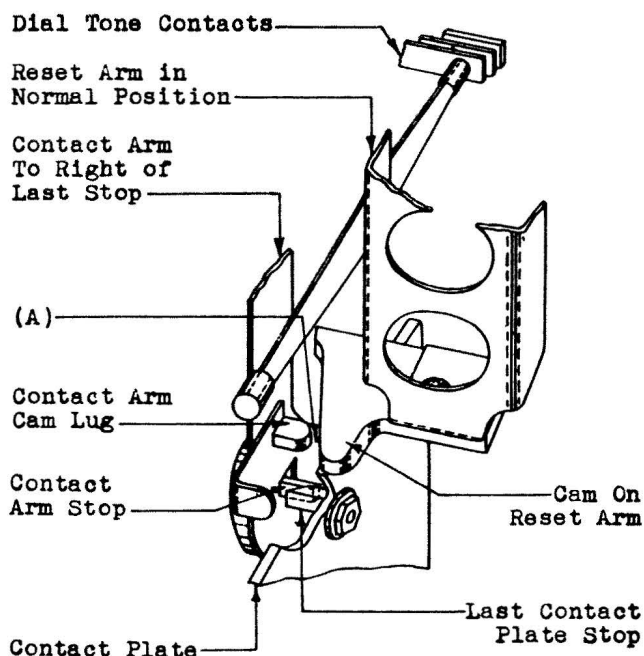

Fig. 22 - Clearance Between Cam on Reset Arm and Contact Arm Cam Lug With Reset Arm in Normal Position and Contact Arm to Right of Last Contact Plate Stop
(b) Fig. 22 (A): With the reset arm in its normal position there shall be a clearance between the cam on the reset arm and the contact arm cam lug of Min. 1/32"